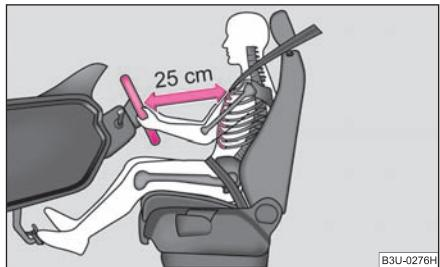

Fig. 99 Safe distance to steering wheel
- The driver must maintain a distance of at least 25 cm to the steering wheel ⇒ fig. 99. Not maintaining this minimum distance will mean that the airbag system will not be able to properly protect you – hazard!